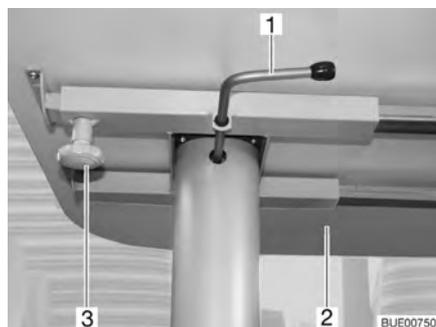

Fig. 72 Lift-off table, movable
- Loosen knurled screw (Fig. 72,3).
- Move table-top (Fig. 72,2) to the desired position.
- Swivel the catch lever (Fig. 72,1) to the left. The lock of the lifting mechanism is open.
- Press table-top (Fig. 72,2) in the middle down to the stop limit and hold it down.
- Swivel the catch lever (Fig. 72,1) to the right (Fig. 72). The lifting mechanism is locked.
- Swivel the catch lever (Fig. 72,1) to the left. The lock of the lifting mechanism is open. The table-top moves upwards to the limit stop.
- Swivel the catch lever to the right (Fig. 72). The lifting mechanism is locked.